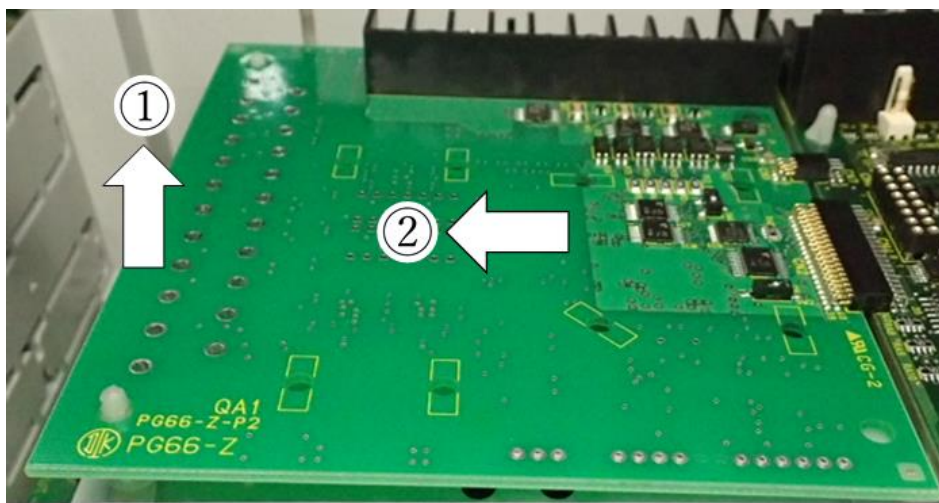

Figure 3.9 Removal of the Optional Circuit Board
- (5) As shown in Fig. 3.9, lift the bottom edge of the board in the direction of “1” and pull the board away from the VFC66-Z in the direction of “2”.